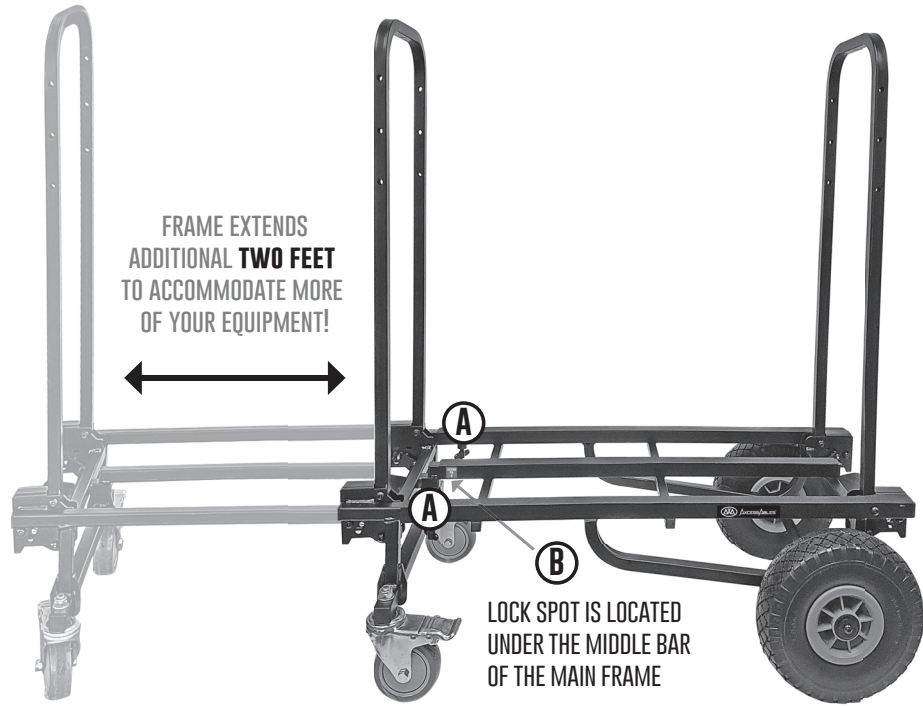

Fig. 3
- Push **IN** the **Locking Pin** **B** and then pull the Front and Rear frames of the **DOLLY** together. (See Fig. 3)